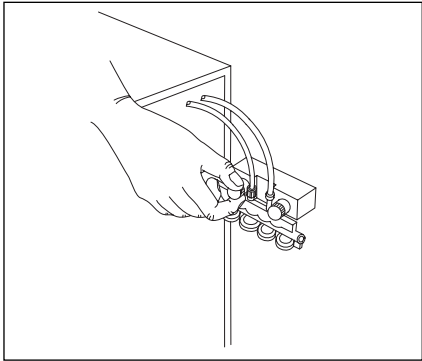

Figure 9.11
- 4. Remove the two thumbscrews that hold the manifold in place (Figure 9.11).